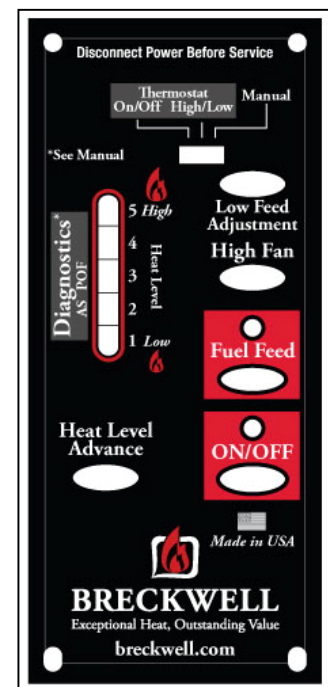

FIGURE 12
PANEL CONTROLS (See Figure 12)
- The green light located above the On/Off button (in the On/Off box) will flash during the ignition start-up period. (See figure 12)
- While the stove’s auger system is feeding pellets the green light (in the “Fuel Feed” box) will be on. (See figure 12)